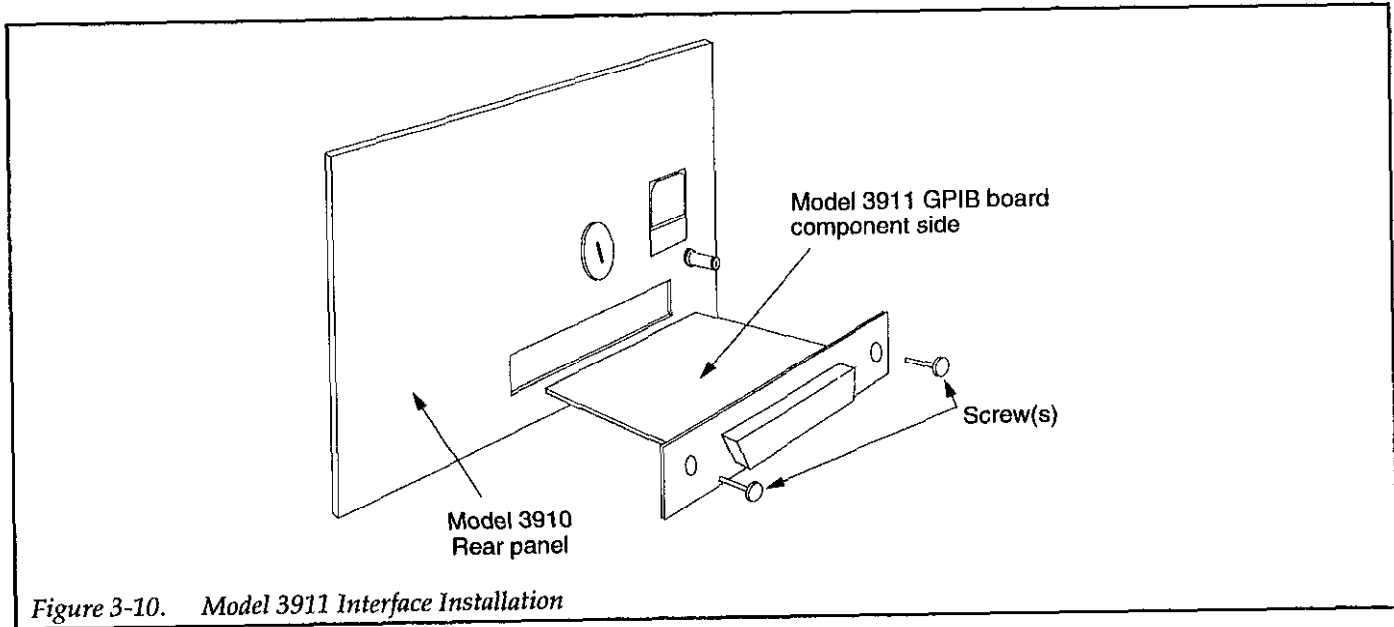

Figure 3-10. Model 3911 Interface Installation
3. Insert the GPIB board into the Model 3910, as shown in Figure 3-10. Carefully align the board so that it mates with the connector inside the instrument.